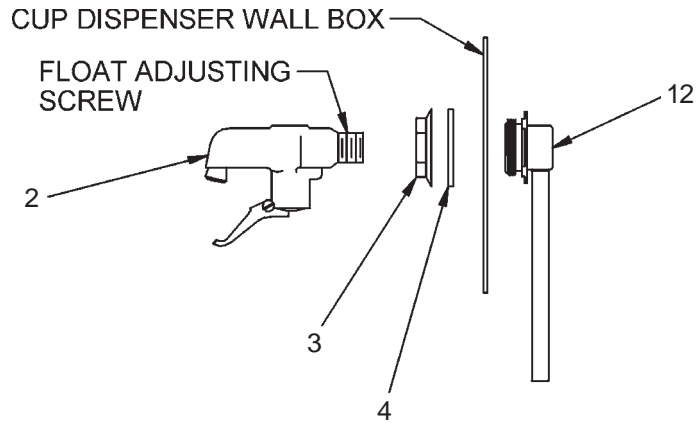

FIG. 13
7. **Install** glass filler supply tube assembly. (See Figure 13). Put glass filler fitting through hole provided in back, put gasket on from the front and screw on the hexagonal mounting nut.
11. **Turn** on supply water and operate push button valve and glass filler. Check entire system for leaks. Water flow from the glass filler can be adjusted by turning the flow adjusting screw (See Figure 13). In order to adjust, it may be necessary to remove, and then reinstall the glass filler, per step 8 above.